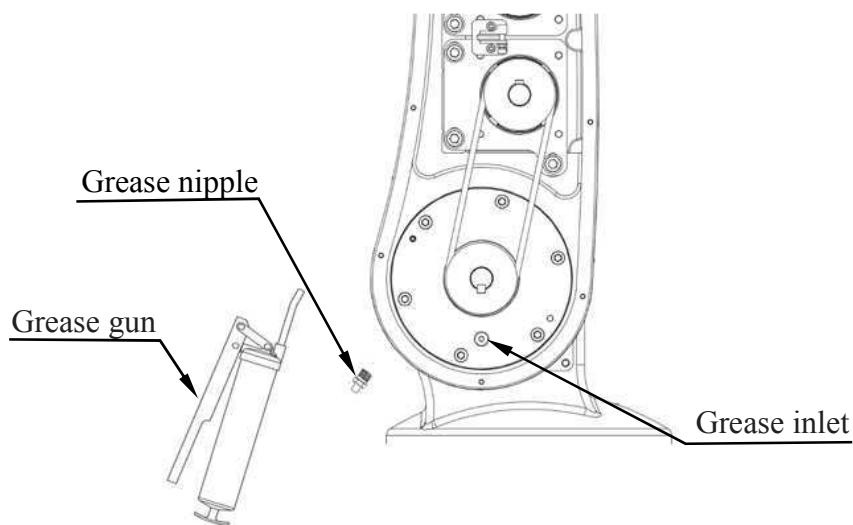

Figure 5-9 Grease replenishment
- Step1. The grease inlets and the air outlets of the robot are shown in Figure 5-9.